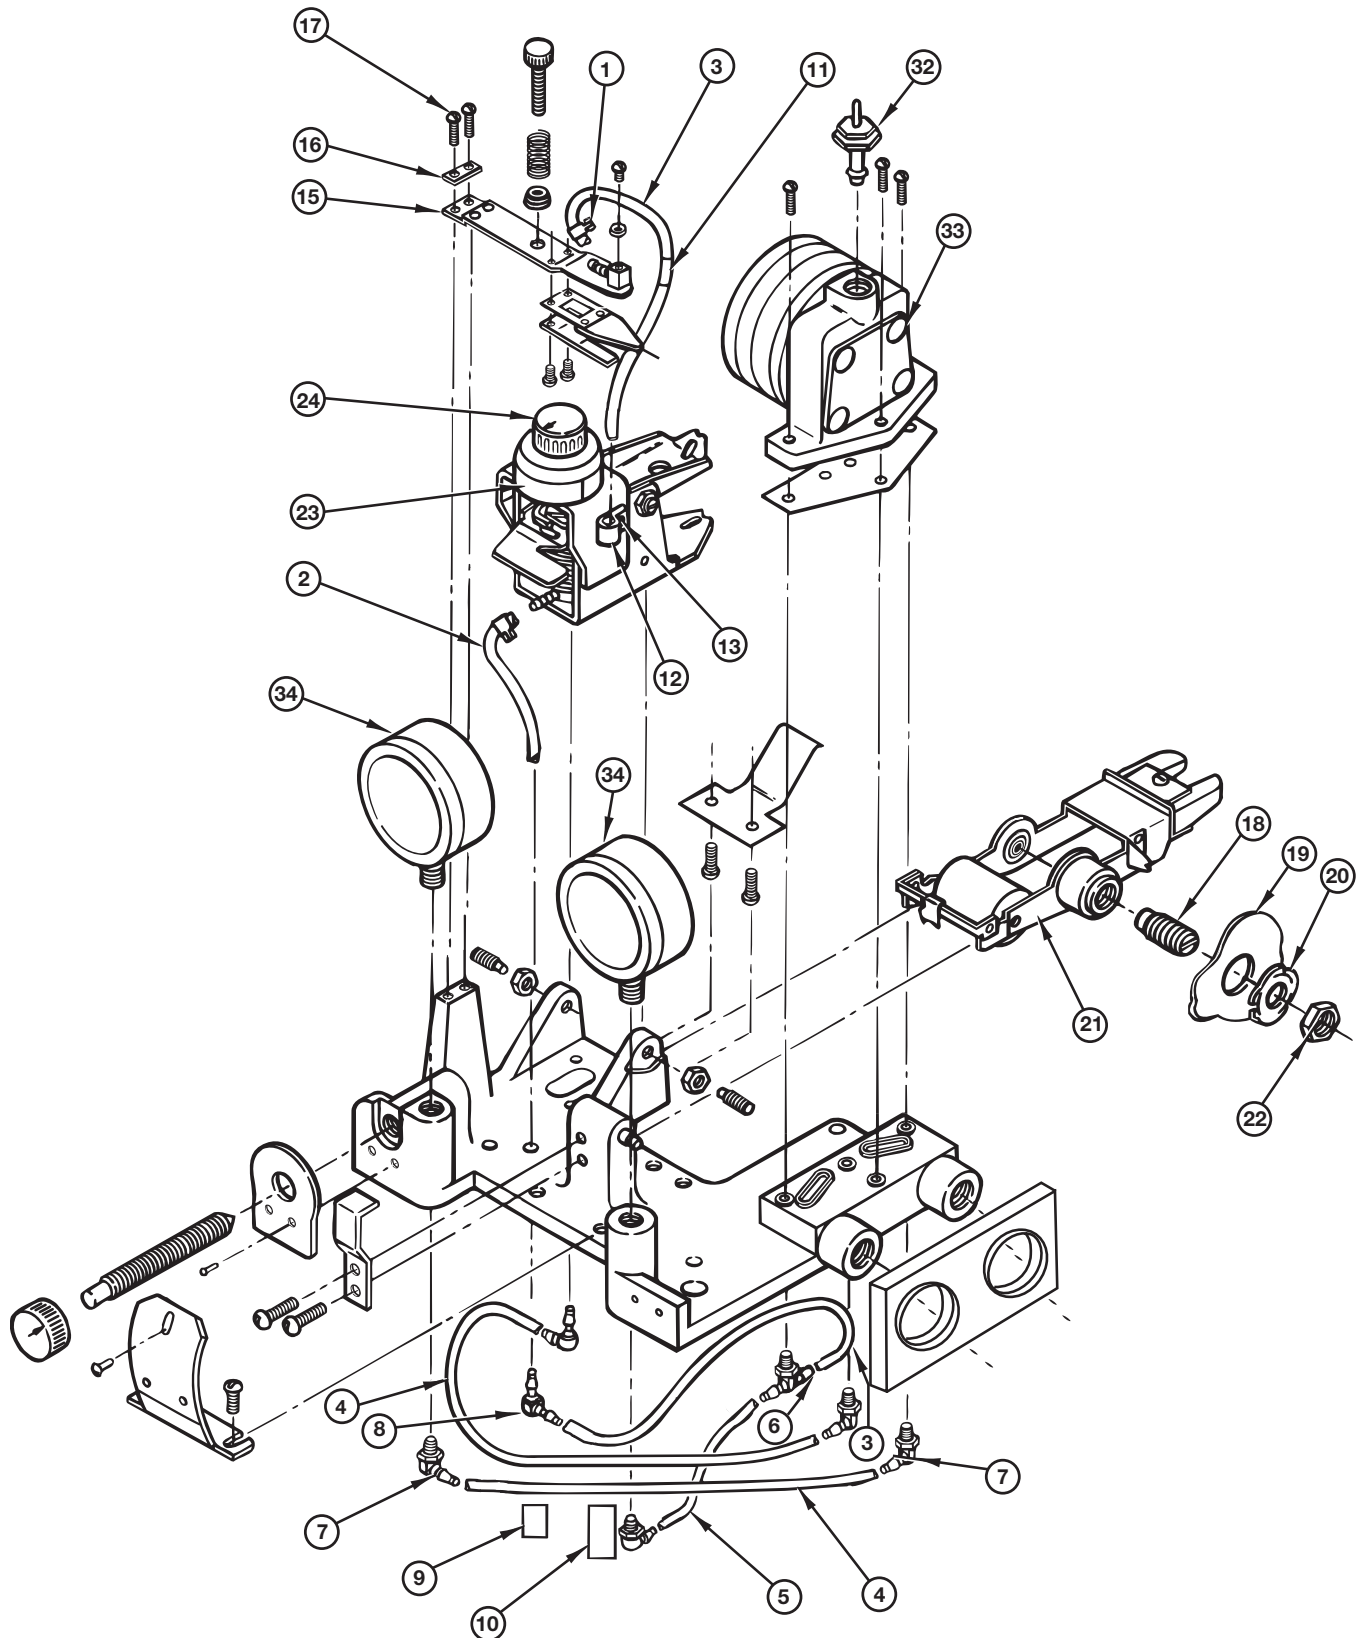

Figure 37
#### 3.3.6.1 Controller Replacement Assemblies Parts Identification (See Figures 37 & 38)
#### 3.3.6.2 Tubing Kit 89-8501-015② @ 3-15 and 6-30 psig (See Figure 37)
#### 3.3.6.3 Nozzle Lever Kit 89-8501-002④ @ 3-15 and 6-30 psig (See Figure 37)
#### 3.3.6.4 Carriage Assembly Kit 89-8501-003④ @ 3-15 and 6-30 psig (See Figure 37)
#### 3.3.6.5 Feedback Assembly Kit 89-8501-005 @ 3–15 psig and 89-8501-006 @ 6–30 psig (See Figure 37)
#### 3.3.6.7 Additional Replacement Parts (See Figures 37 & 38)